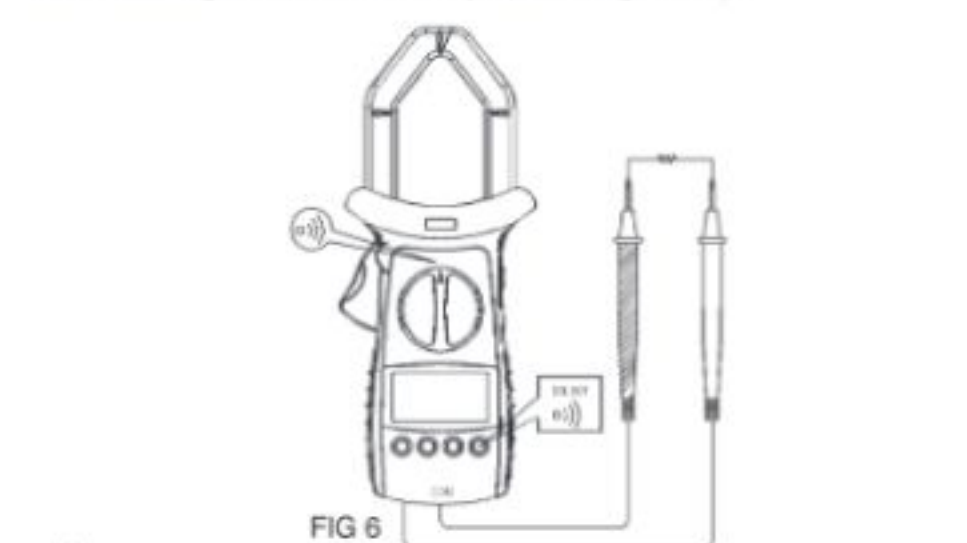

FIG 6
D. Testing for Continuity (See Figure 6)